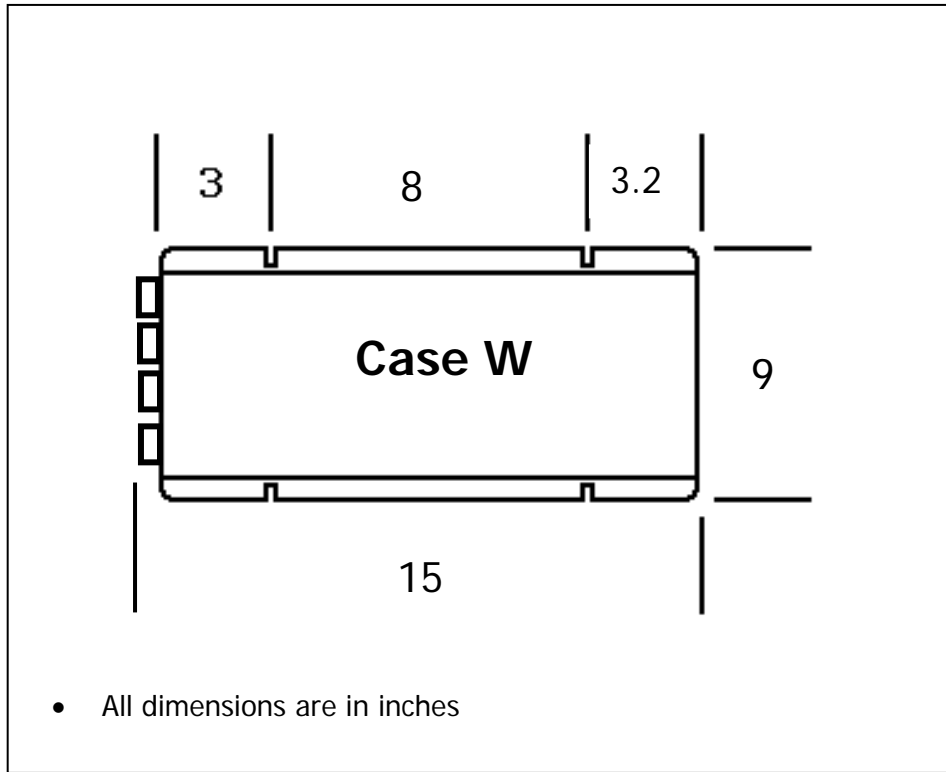

Figure 3: Footprint
- Locate the mounting holes on the chassis flanges and fasten them using ¼ inch diameter screws to secure the inverter. See figure 3.